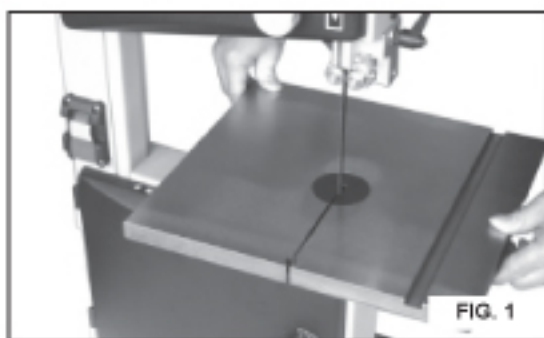

FIG. 1
a. Assemble the upper table trunnion to the lower table trunnion with Carriage Bolt, Glide Piece, Washer and Wing Nut. Place the table on to the upper table trunnion, taking care when passing the saw blade through the slot of the table (See Fig. 1).